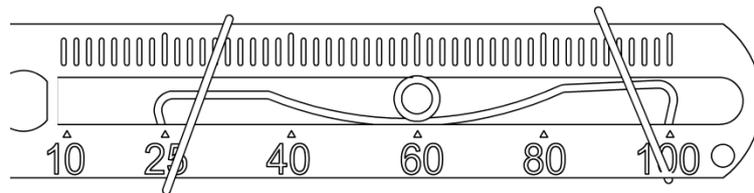

Figure 21. Feedback lever B and driving pin connection
- For feedback lever A, hold the linear stroke mounting bracket⑦ against the actuator. Plug the head of feedback lever⑤ into the U-shaped rod①. For feedback lever B, insert the driving pin⑪ into the fixed spring in the slot of the feedback lever B, as shown in Figure 21. Make the valve main stem and feedback lever are at right angle. If it cannot be at right angle, install according to the actual situation.